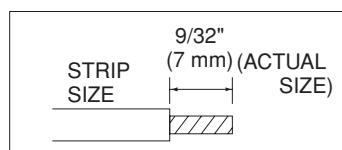

Fig. 9
- (1) Cut the wire end with a cutting pliers, then strip the insulation to expose the wire about $9/32"$ (7 mm). See the label (Fig. 9) near the terminal plate.
- (2) Using a screwdriver, loosen the terminal screw on the terminal plate.
- (3) Insert the wire and tighten the terminal screw completely using a screwdriver.